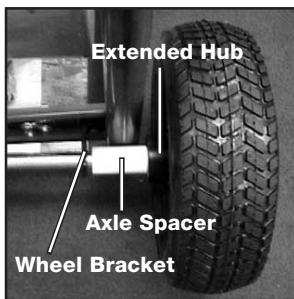

Figure 7a
6. Slide one wheel (1) onto the axle (2) with the extended hub pointed away from axle cap (6). (See Figure 7a)
7. Slide one axle spacer (3) down against the wheel (1).
8. Slide the axle (2) through the holes in the wheel brackets (5).